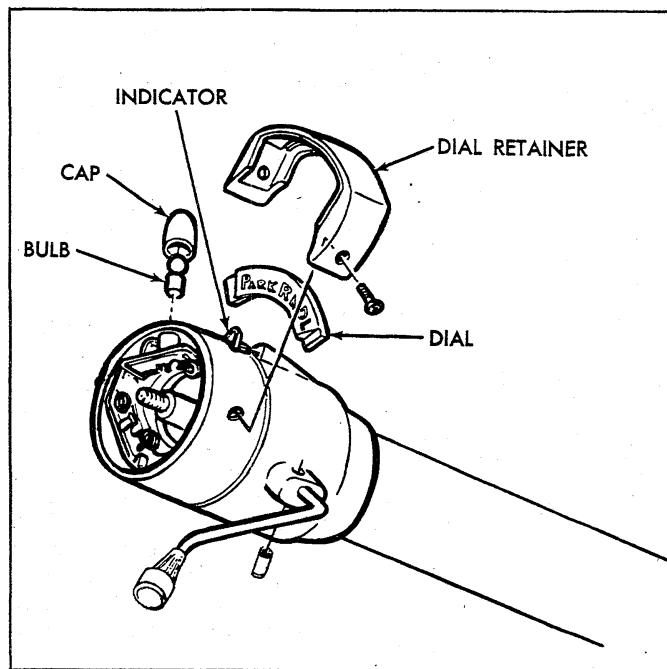

Fig. 33—Powerglide Dial Indicator Assembly—Chevy II and Camaro
4. On automatic columns removed from Chevy II or Camaro, remove screws securing dial retainer to column and remove retainer and dial (fig. 33). Slide